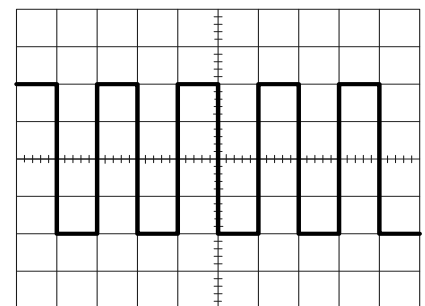

Figure 1
- Align the trace with the horizontal center line of the grid by adjusting the CH 1 POSITION (9) control and TRACE ROTATION (10) control (adjustable by screwdriver).
- Align the beginning of the trace with the left-most vertical grid line on the CRT screen by adjusting the HORIZ. POSITION (21) control.
- Connect a probe to the CH 1 INPUT terminal (5). Make sure the slide switch on the probe is set to the "X1" position.
- Connect the probe tip to the CAL (36) terminal.
- Set the CH 1 AC-DC-GND (6) switch to AC and release the GND. A square waveform similar to the one shown in Figure 1 should now be displayed on the CRT screen (The vertical lines of a square wave may be invisible on your screen but you should still be able to view the peaks and valleys of the waveform).